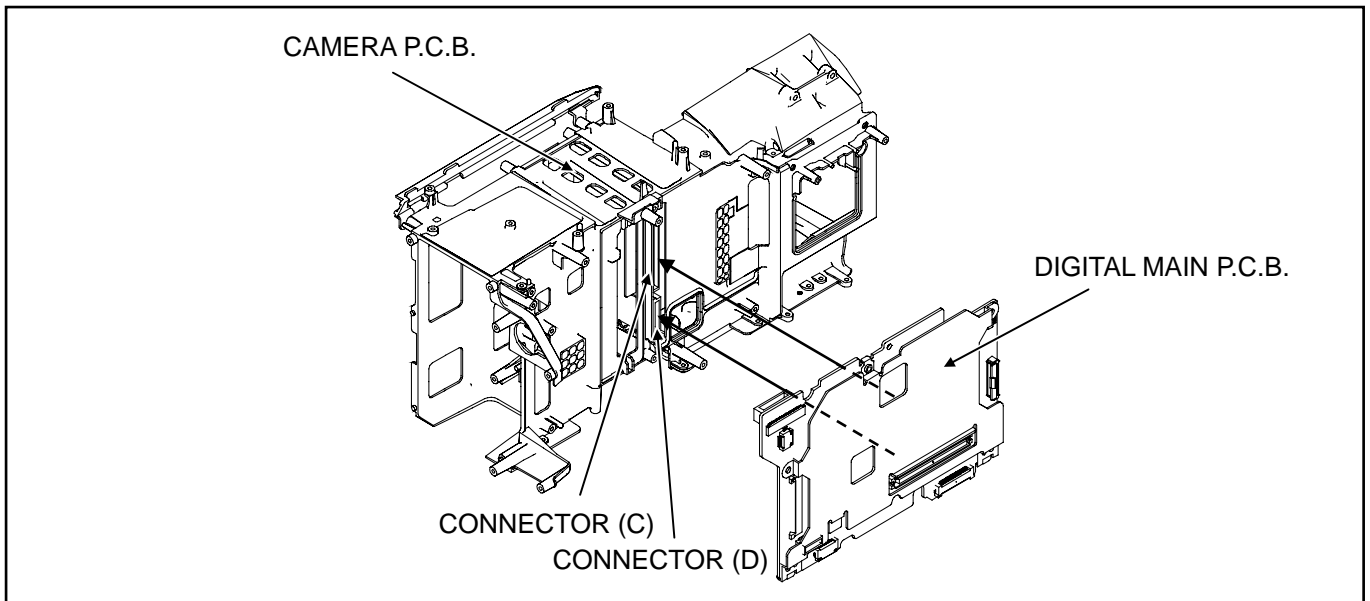

Figure 17-3
10. Disconnect the connector (C) and (D) combined with the CAMERA P.C.B. and remove the DIGITAL MAIN P.C.B. as shown in figure 17-3.